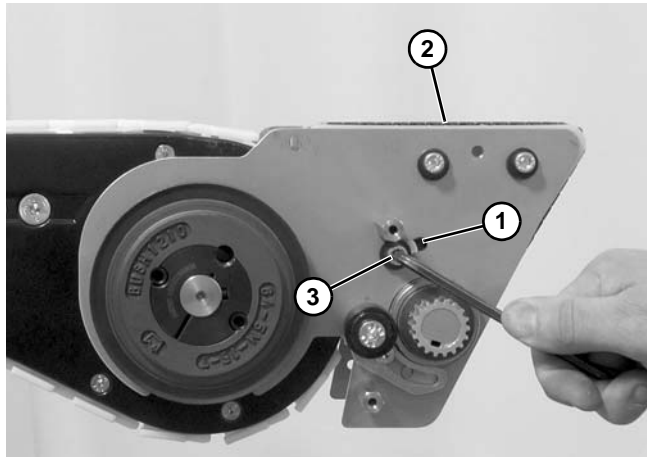

Figure 176
- Slide idler assembly within slot (**Figure 176, item 1**) only enough to remove excess slack from belt (**Figure 176, item 2**). Tighten socket head screws (**Figure 176, item 3**).